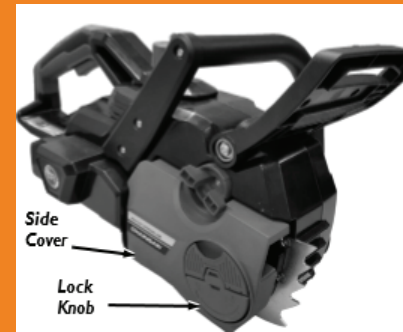

Figure 1
2. Remove the Side Cover by turning the Lock Knob counter clockwise (**Figure 1**).